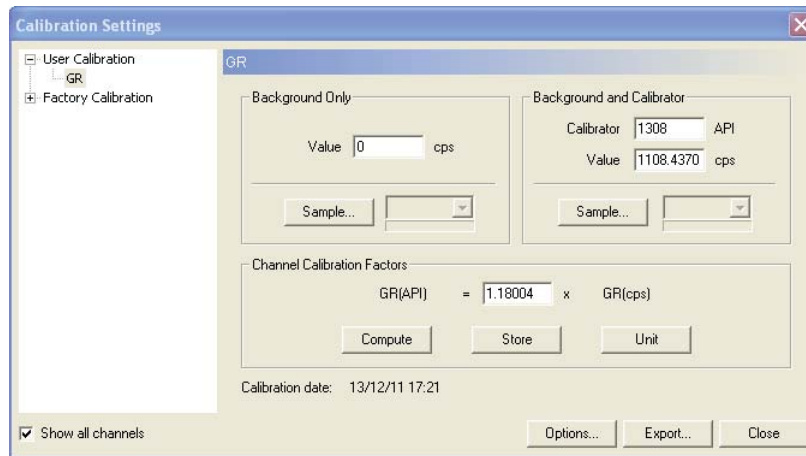

Figure 5-2 Calibration Settings dialog box
3. In the **Calibration Settings** dialog box (Figure 5-2) click on **Sample** in the **Background Only** section and wait until an average value has been determined. The corresponding **Value** will be updated automatically. (The number of samples taken can be changed under **Options**.)